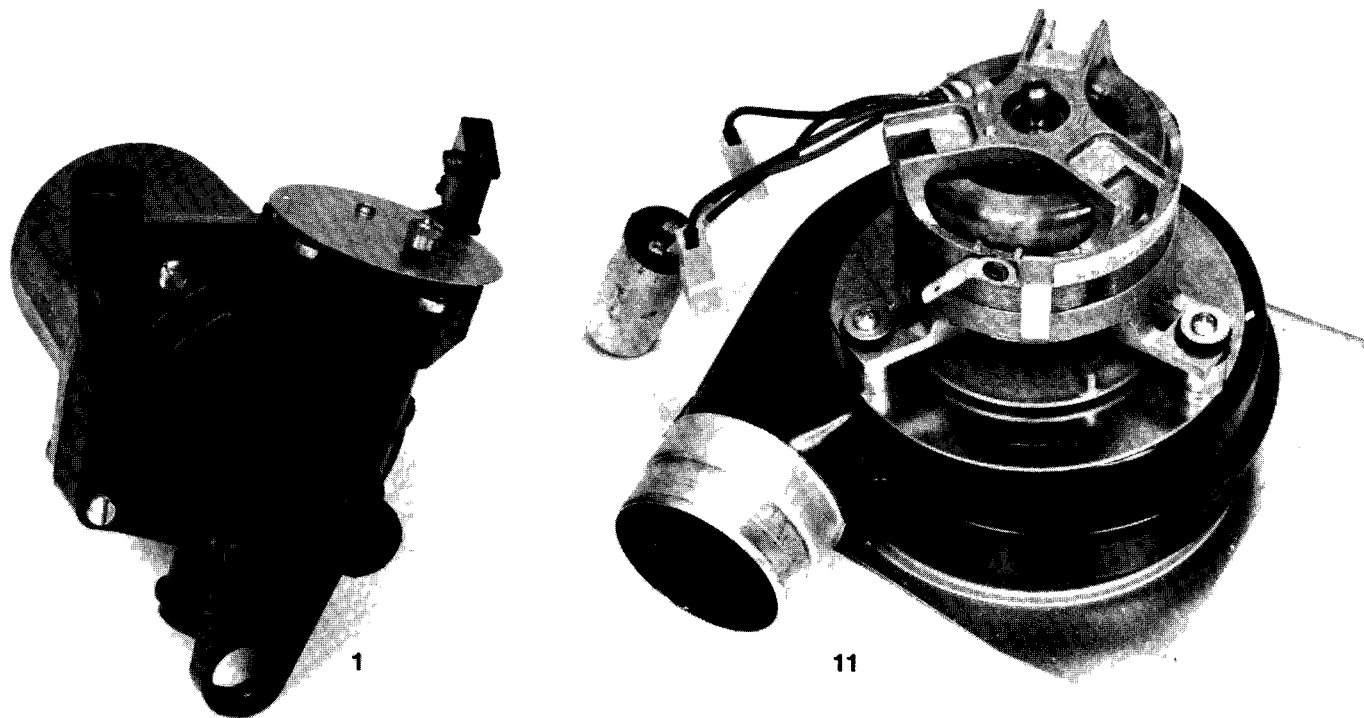

Fig. 49
10.1.2 Use the item key number to identify each part shown in Figs. 49 and 50.